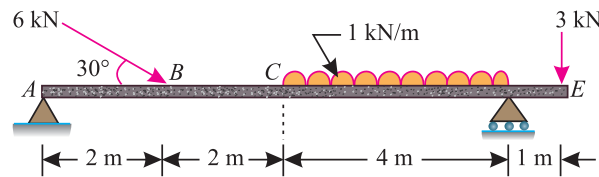

Fig. 12.16.
6. A beam  $ABCDE$  hinged at  $A$  and supported on rollers at  $D$ , is loaded as shown in Fig. 12.16.